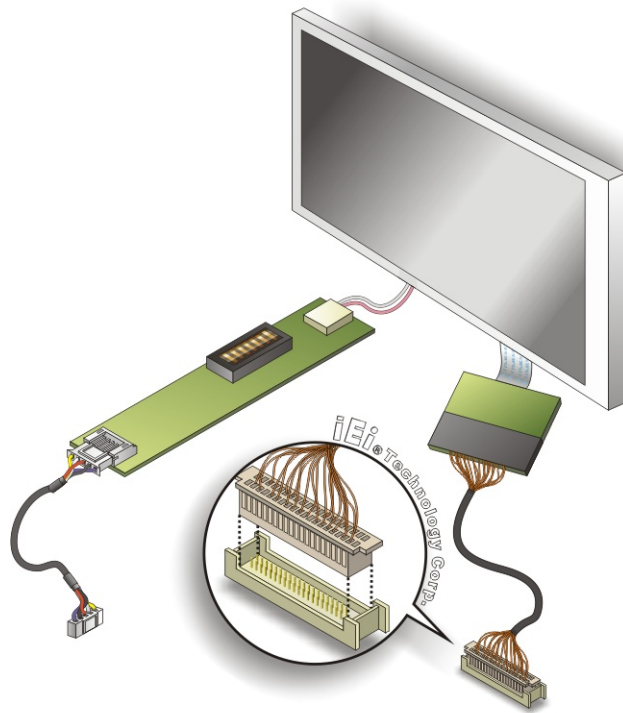

Figure 5-12: LVDS Connector
Step 2: Insert the cable connector. Insert the connector from the LVDS LCD PCB driving board to the LVDS connector as shown in **Figure 5-12**. When connecting the connectors make sure the pins are properly aligned.